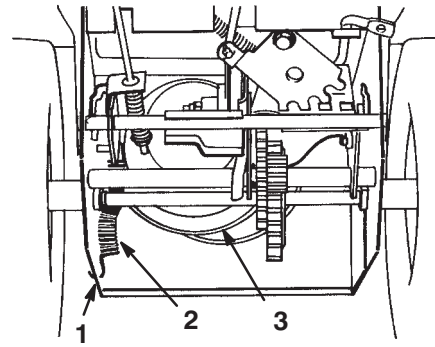

**Figure 24**
- Remove the auger/impeller drive belt from the engine pulley and the large auger/impeller pulley (Fig. 24).
- Remove the traction drive belt from the engine pulley and the large traction pulley (Fig. 24).
- Loop the belt over the engine pulley, ensuring that the belt is on the inside of the belt guide (Fig. 24).
- Install the auger/impeller drive belt around the large auger/impeller pulley and engine pulley, ensuring that the belt is on the inside of the idler pulley and the belt guide (Fig. 24).
4. Loosen the belt guide (Fig. 24).
5. Remove the auger/impeller drive belt from the engine pulley and the large auger/impeller pulley (Fig. 24).
6. Install a new belt around the large auger/impeller pulley (Fig. 24).
7. Loop the belt over the engine pulley, ensuring that the belt is on the inside of the idler pulley and the belt guide (Fig. 24).